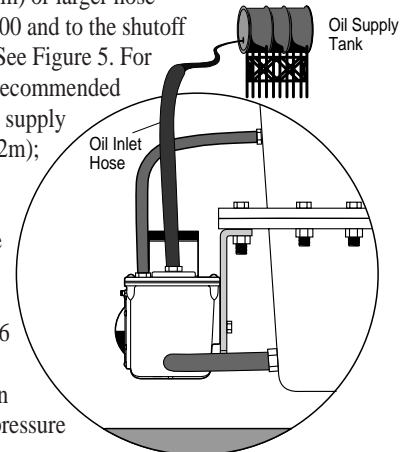

Figure 5
2. Connect a 1/2 inch I.D. (13 mm) or larger hose to oil inlet fitting on the LM300 and to the shutoff valve on the oil supply tank. See Figure 5. For models LM300 thru LM305 recommended minimum mounting of the oil supply tank above the LM is 4 ft. (1.2m); maximum 15 ft. (4.6m). The hose must maintain a downward slope and not have low spots or droops. Maximum head pressure rating using standard 1/4 in. (6 mm) orifice is 15 ft. (4.6 meters). See Flow Rate test on page 1 for additional orifice pressure ratings.